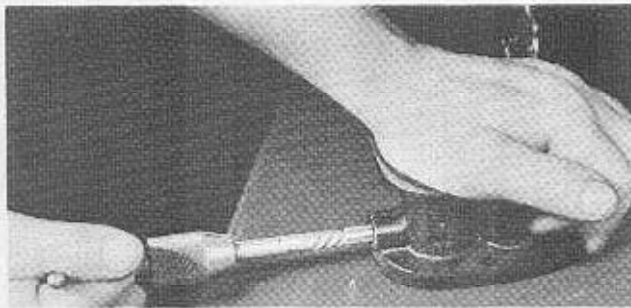

Fig. 11
- 12** Remove throttle shaft bushings as shown in Figs. 11 and 12, using #9644-B Ezy Out tap. This results in removal of the following:
- (1) 40-9657 Bushing—Throttle stem